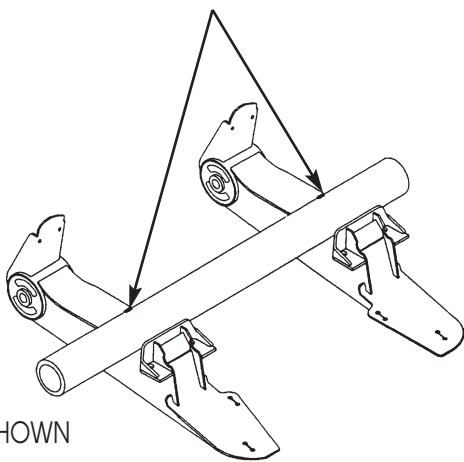

Figure 13
6. At least one side plate radius per beam must be seated on the axle. Gaps between the axle seat side plate radius and the axle may be up to 1/8". (See figure 13) U-bolts are installed after the axle seat and beam assembly have been welded complete and allowed to cool.